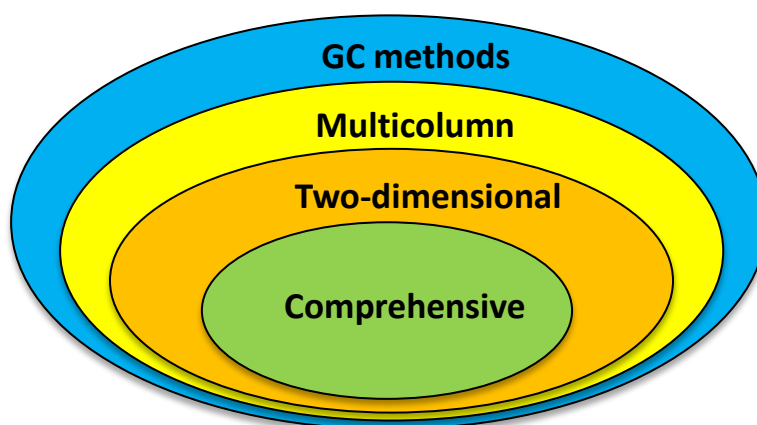

Figure 1 Categorization of GC methods.
To understand what comprehensive GC×GC means you have to imagine an onion. Those of you who lack imagination can fetch a real onion (warning: real onion can cause eye irritation ;-). You can also look at **Figure 1**.
- 1) There is a technique called heart-cut gas chromatography (or heart-cutting gas chromatography). Look up the principle of this technique in literature. To which category from Figure 1 this heart-cut GC belongs and why?